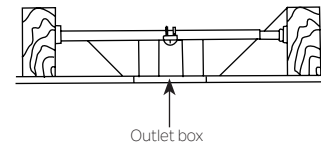

Fig. 3
**NOTE:** Depending on the location you have selected for installation, you may need to purchase and install a "Joist Hanger" for the support of the outlet box. Make sure the joist hanger you purchase has been designed for use with ceiling fans. (Fig. 3)